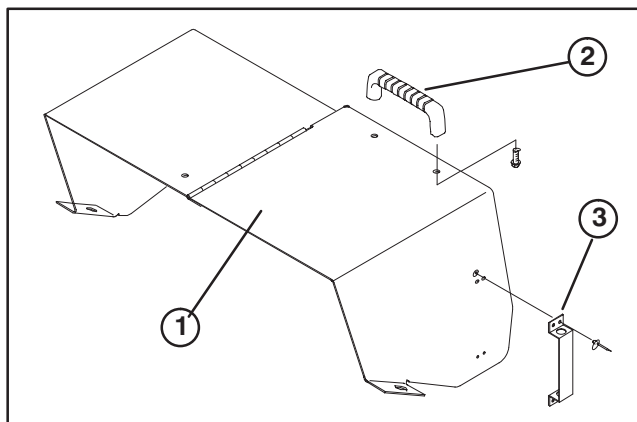

Figure 10
1. Mount handle to top of cover with (2) self tapping screws (Fig. 10).
2. Mount idler pin bracket to left side of cover with (4) washers and pop rivets (Fig. 10).